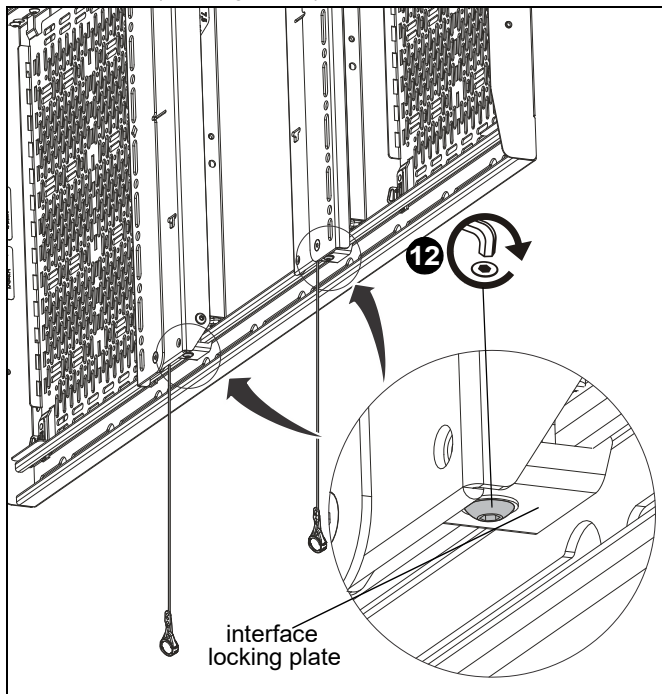

Figure 27
12. Tighten screws that were loosened in Step 8 until interface rail hook is secured under lower rail on both interface brackets. (See Figure 27)
NOTE: LeverLock™ rivets (Q) may be used for security if desired. Install in holes shown in Figure 27.